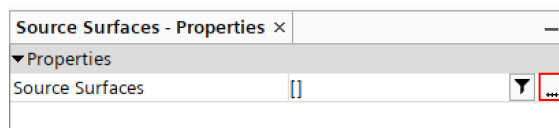

Figure 22: Button to open the Custom Editor.
4. Select the **Source Surfaces** node and in the *Properties Window*, open the **Custom Editor** and select the **Inlet** as the source surface. The button to open the **Custom Editor** is shown in Figure 22.